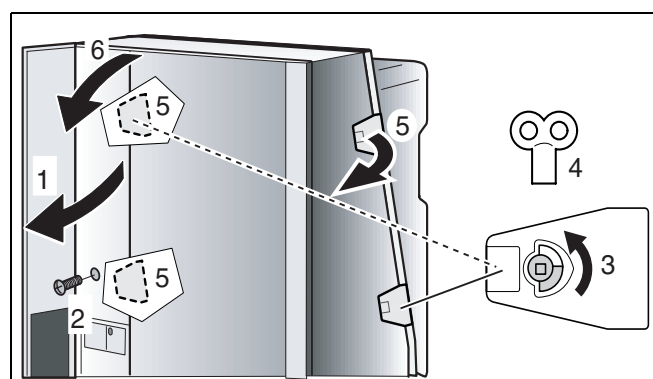

fig. 5 Removing the casing
- Open the cover of the control panel (fig. 5, item 1).
- Remove the screw (fig. 5, item 2).
- Open the locks (fig. 5, item 3) with the radiator key (fig. 5, item 4).
- Release the clasps (fig. 5, item 5).
- Remove the boiler casing forwards (fig. 5, item 6).